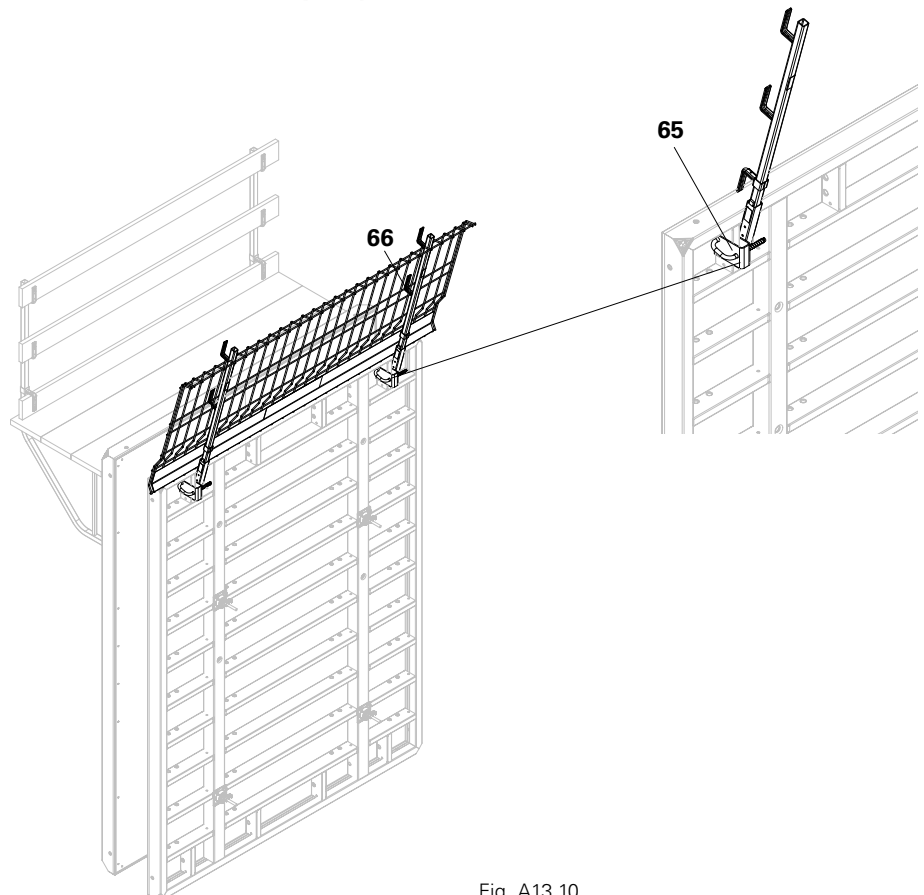

Fig. A13.10
1. Hook in Guardrail Post Holder TRIO (65) into the connecting holes of the panel's vertical struts.
3. Insert Handrail Post HSGP (66).
- (Fig. A13.10)